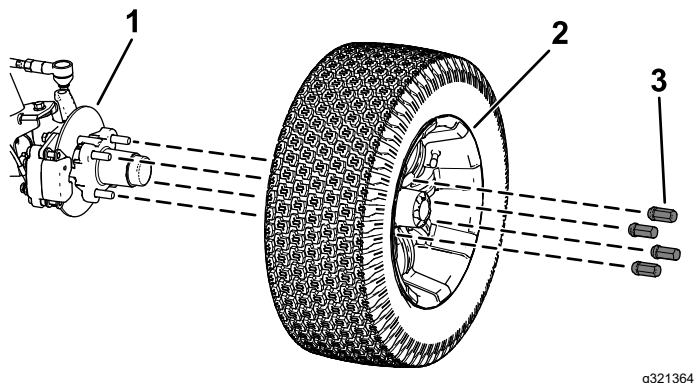

Figure 37
2. Remove the 4 lug nuts that secure the wheel to the hub (Figure 37).
4. Align the holes in the wheel to the studs of the hub and assemble the wheel to the hub with the valve stem outward (Figure 37).
5. Secure the wheel to the hub using the lug nuts (Figure 37).